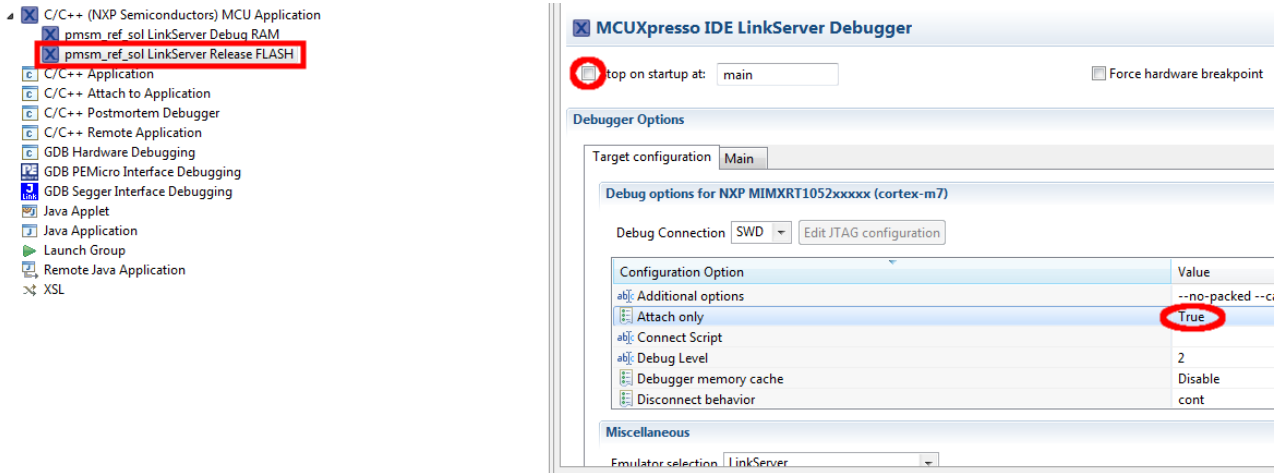

Figure 15. MCUXpresso debug configurations
1. Select the “Release FLASH” build configuration (Point 2 in Figure 15).
2. Click the “Build” button (Point 2 in Figure 15).
configuration. In “Debug Configurations” (Point 3 in Figure 15), you should see both configurations (Figure 15).
5. When clicking the “pmsm_ref_sol LinkServer Release FLASH” configuration and the “Debugger” tab, the debug configuration settings should be visible (Figure 15). Set the values as follows:
6. After these steps, click the “Debug” button. As shown in Figure 15, the layout switches to the debugging mode. The debugger does not perform reset; it just connects to the running target.
- To pause the running application, press the “Suspend” button (Point 2 in Figure 15).
- To run the application, press the “Resume” button (Point 1 in Figure 15).
- To stop debugging, press the “Terminate” button (Point 3 in Figure 15).
7. If debugging again, you do not have to create the debug configuration again. Just click on the little arrow in the “Debug Configuration” button (Point 3 in Figure 15) and select a debug configuration.